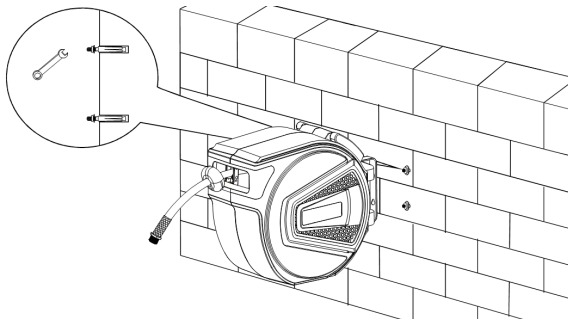

Fig. 4: Assembly
Step 3: Insert the clamping screws into the wall. Secure the bracket to the wall with the screws using a spanner (Fig. 4).